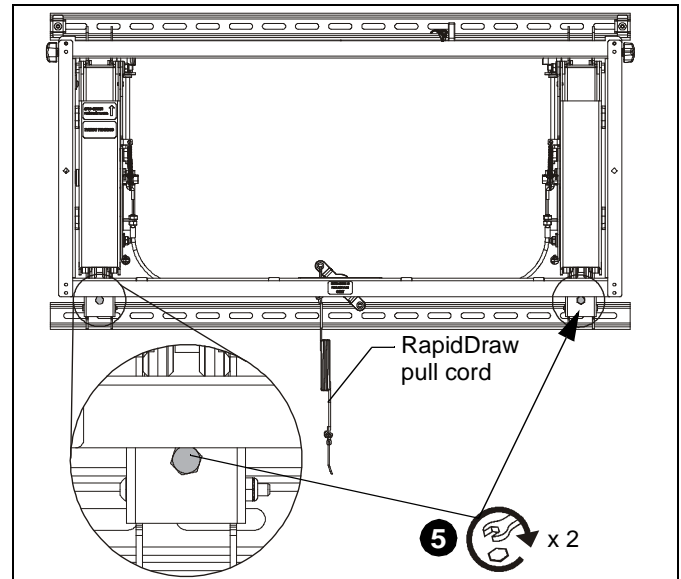

Figure 9
6. Extend RapidDraw pull cord to bottom row of displays so that it is accessible, re-tie to correct length and label the pull cord using label (Y) so that it is identifiable. (See Figure 9)